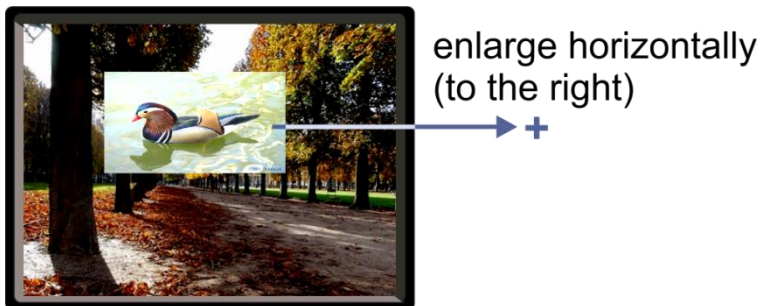

Figure 13: Increasing the Width
3. Select H width (an OSD slide bar appears) and press + to increase the width, or – to decrease the width, see Figure 13.